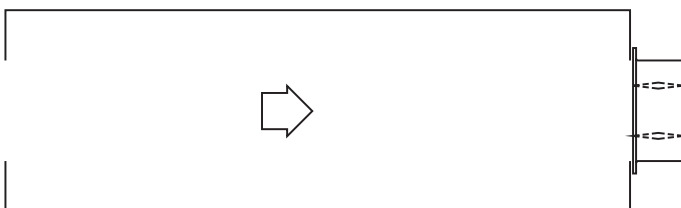

**Figure 5.3**
**Figure 5.3** Illustrates a fully ducted damper. This configuration has the lowest pressure drop of the three test configurations because entrance and exit losses are minimized by straight duct runs upstream and downstream of the damper.
AMCA Figure 5.3